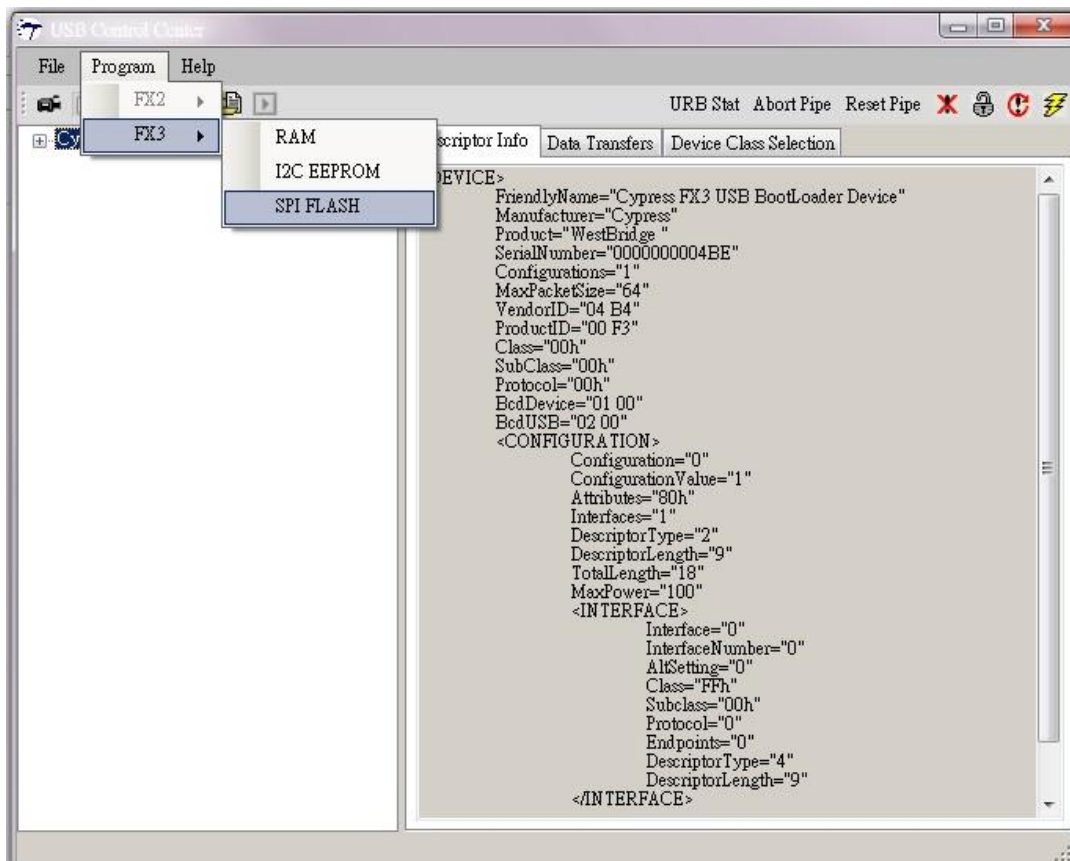

Figure 2-19 Cypress Control Center
- Program software, In Control Center. Click Program FX3 SPI FLASH, as shown in **Figure 2-19**. Select file FPGA\USBC_FX3\demo_batch\FX3_Firmware\SF_loopback.img. Wait until It reports “Programming of SPI FLASH Succeeded”.